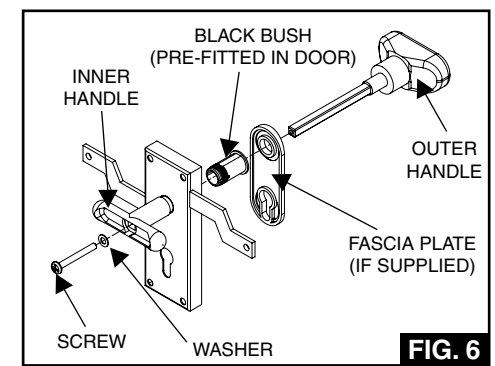

FIG. 6
b) Remove the screw and washer from the outer handle (See Fig 6) and pass the handle spindle through the lock as shown.